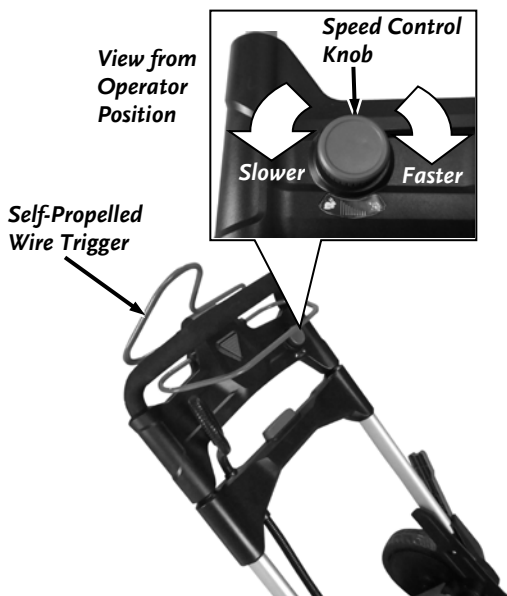

Figure 16
1. Set the Speed Control Knob to the desired setting (**Figure 16**).